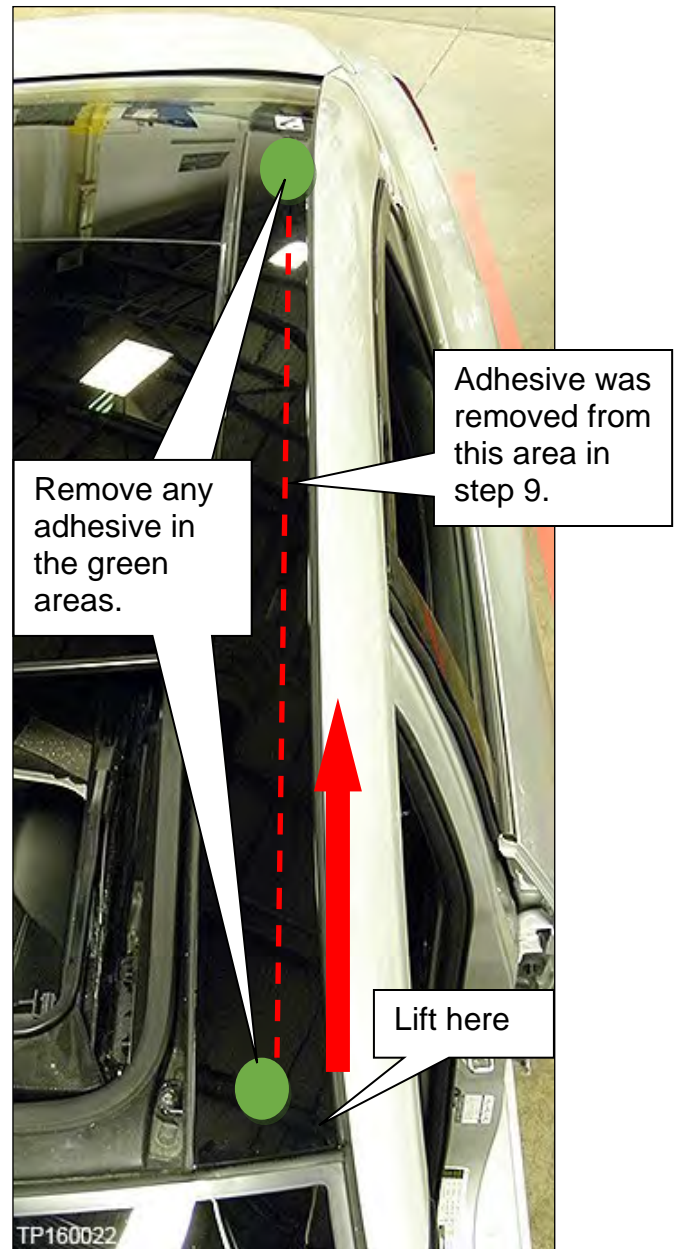

Figure 84
13. If the roof finisher will still not release after the pins have been released, cut away any adhesive under the roof finisher indicated by the green circles as shown in Figure 84.